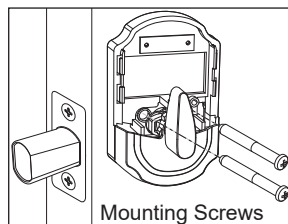

Fig. 11
Step 6. Assemble the inside section on door by aligning mounting holes on the latch and inside section. Make sure the latch pin is HORIZONTAL when inserting it into inside section. Then secure the inside section on the door with mounting screws (Fig. 11).